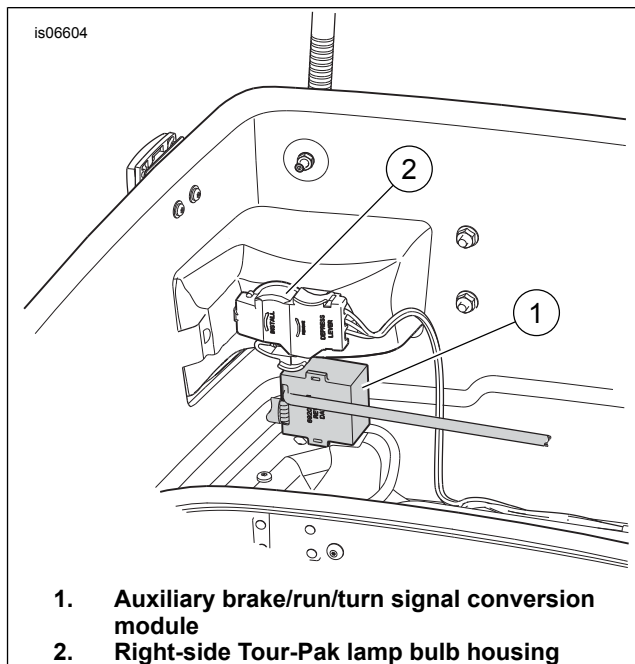
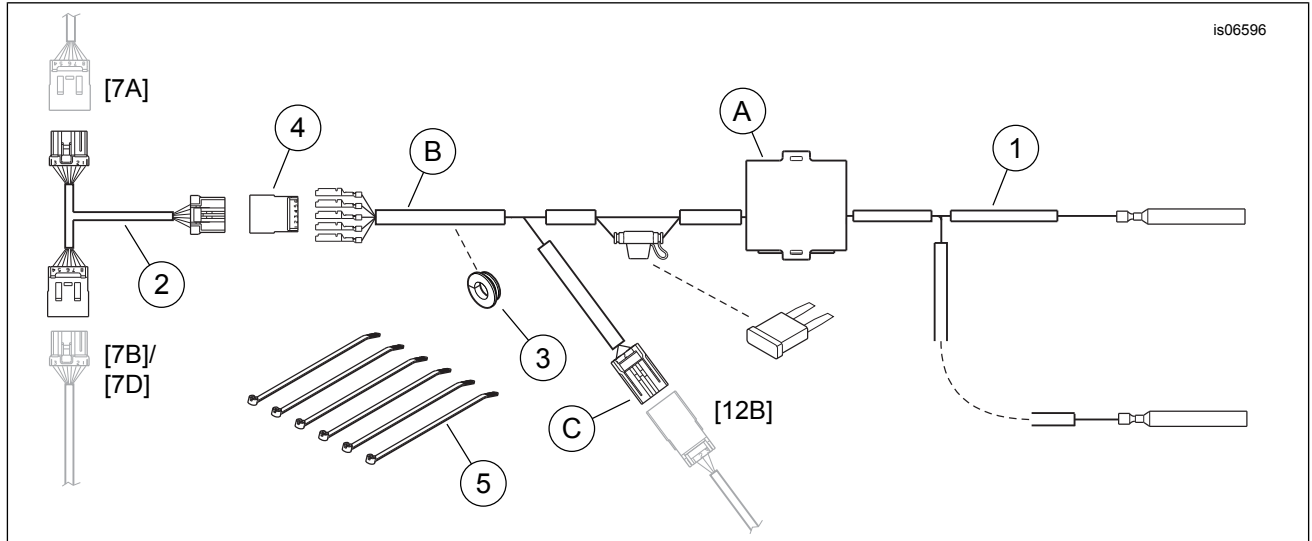

Figure 2. Module Installation at Tour-Pak Right Rear Corner
Figure 3. Service Parts, Auxiliary Brake/Run/Turn Signal Conversion Kit
See Figure 3 and Table 1.
2. See Figure 3. Obtain the Y-harness (2) from the kit, and mate the eight-way pin and socket housings of the Y-harness to the main wiring harness pin housing [7A] and socket and [7B] (Touring models) or [7D] Trike models.
5. Get the auxiliary brake/run/turn signal conversion harness (1) from the kit. Do not remove the backing from the adhesive tape on the module (A) at this time. See Figure 2. Loosely position the module (1) in the **right rear** corner of the Tour-Pak, on the small shelf just below the corner lamp.
6. Remove and discard the original equipment (OE) grommet from the right front side of the Tour-Pak.
7. Route the five-pin conduit bundle (Figure 3, Item B) through the grommet hole in the Tour-Pak.
8. Install the new split grommet (3) around all the wiring at the hole, and work the grommet into the hole in the Tour-Pak wall.
9. Get the six-way pin housing (4) from the kit. Insert the five pin terminals of the conversion harness into the correct cavities of the pin housing as follows:
10. Plug the pin housing into the Y-harness installed earlier in the area under the seat. Use cable straps (5) as necessary to secure the wiring.
11. Plug the three-way socket housing (C) on the conversion harness to the Tour-Pak lighting harness socket housing [12B] unplugged in step 4.
12. Route the red/violet wire on the conversion harness to the left bulb housing. See Figure 2. Route the red/brown wire to the right bulb housing (2).
1. Remove the backing from the adhesive tape on the module (A). Position the module on the small shelf, just below the right rear corner lamp. See Figure 2.